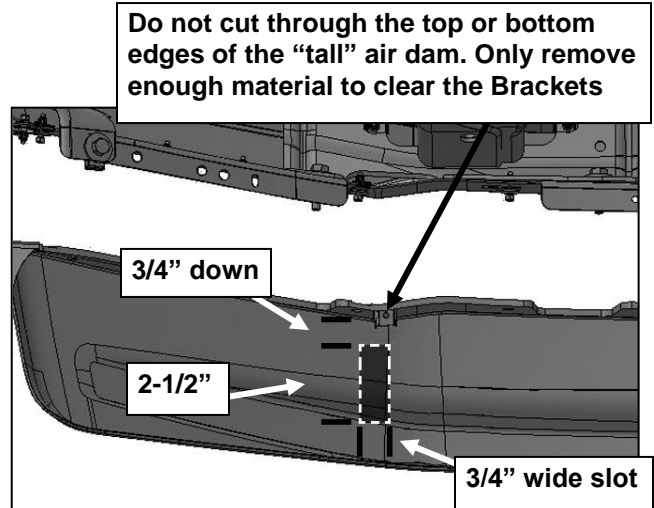

**Fig 11**
9. With assistance, position the Grille Guard up to the outside of the Mounting Brackets. Attach the Grille Guard to the Frame Brackets with the included (4) 12mm x 35mm Hex Bolts, (8) 12mm Flat Washers, (4) 12mm Lock Washers and (4) 12mm Hex Nuts, **(Figure 11)**. Do not fully tighten hardware.
10. Attach the Grille Guard to the Lower Mounting Brackets with the included (4) 12mm x 35mm Hex Bolts, (8) 12mm Flat Washers, (4) 12mm Lock Washers and (4) 12mm Hex Nuts, **(Figure 11)**. Do not tighten hardware at this time.